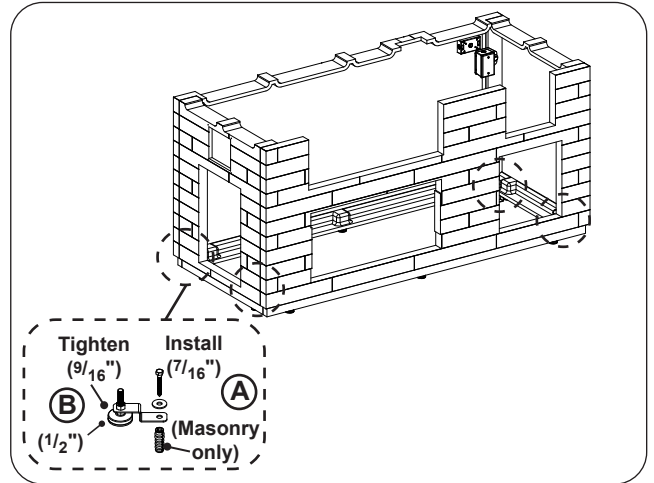

Fig. 11-1 Mount island
1. Secure the island to the floor using the 4 pre-installed mounting brackets. Use a  $7/16$ " open end wrench and the supplied mounting hardware as appropriate. See Fig. 11-1, A.
Finish by tightening down the brackets. Hold a leveler in place (below bracket) with a  $1/2$ " open end wrench, and tighten the nut (above bracket) using a  $9/16$ " open end wrench. See Fig. 11-1, B.